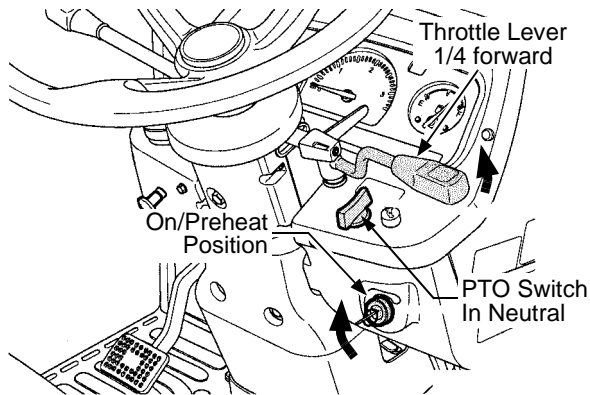

Figure 24
- Turn the ignition switch to the "ON/Preheat" position. Refer to Figure 24.